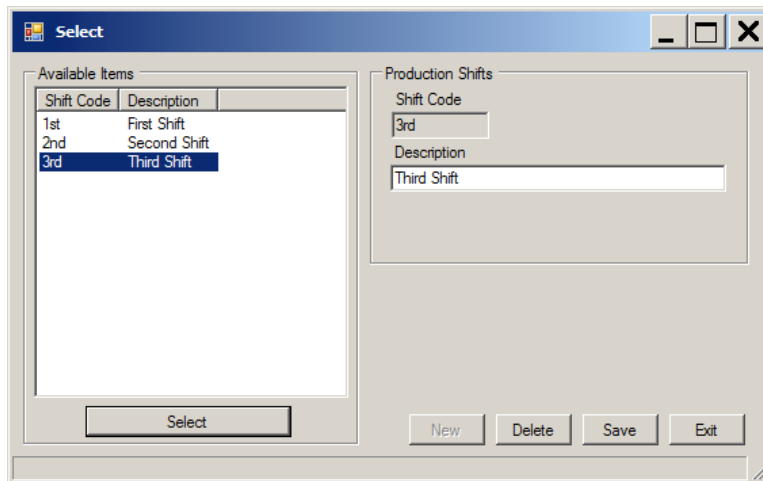

Figure 40. Select Shift Dialog.
3. Click the button **>>** to the right of the **Shift** field on the *Employee Details* dialog. This opens the *Shift Selection* dialog window (see Figure 40).